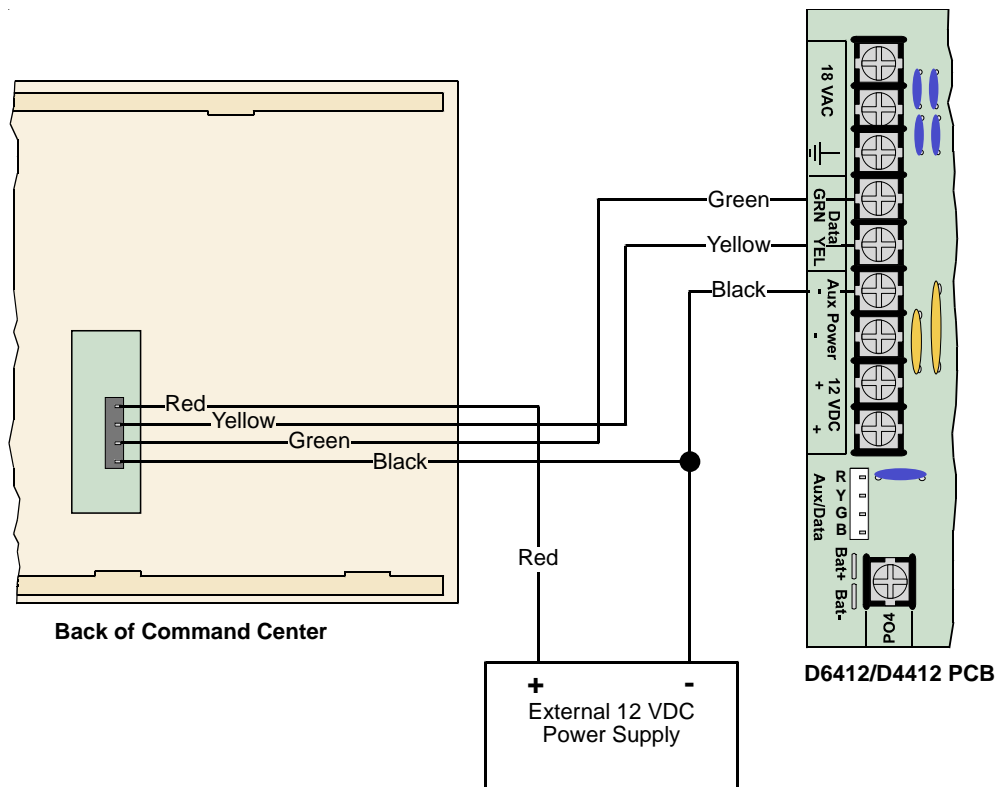

Figure 33: External Power for Command Centers
Review *Section 5.0 Power Outputs* to determine the total power output requirements for your system. You may need to add one or more External Power Supply Modules for the number of command centers you want to use. *Figure 33* shows an external power supply powering command centers in a stand-alone configuration.
*Figure 33* shows the common from the External Power Supply Module connected to both the command centers' common and the common on the control panel.
Review *Section 5.0 Power Outputs* to determine the total power output requirements for your system. You may need to add one or more External Power Supply Modules for the number of devices you want to use. *Figure 33* shows an external power supply powering command centers.